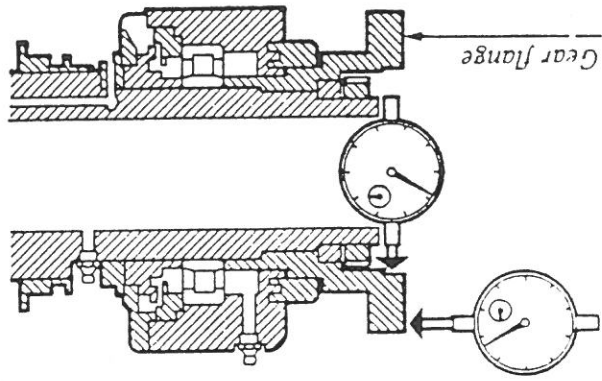

Figure 14
10. Check radial and axial runout of the gear flange as described and as shown in figure 14 on page 34.